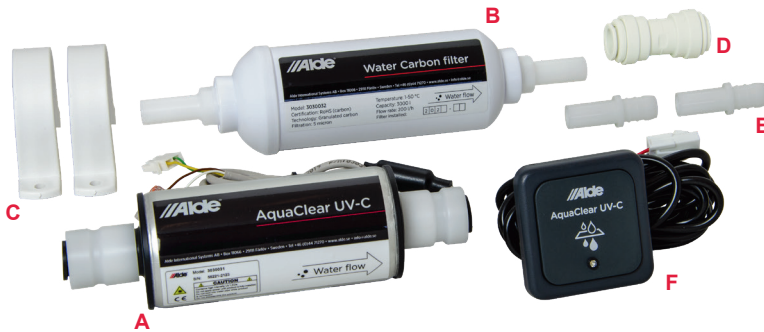
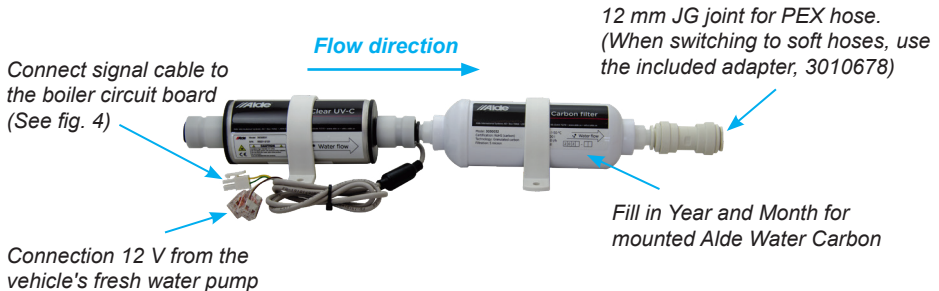
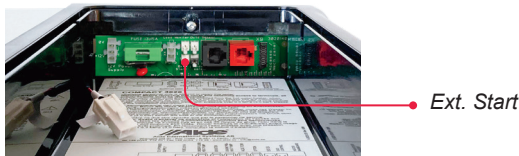

*fig. 1, Alde AquaClear 3030033, complete*
fig. 3
fig. 4
**Alde AquaClear complete 3030033 (fig. 1), consists of:**
2. Assemble the Alde AquaClear UV-C (fig. 1, A) with the Alde Water Carbon filter (fig. 1, B). Please note that Alde Aqua Clear UV-C should be located before the Alde Water Carbon filter in the flow direction. (See fig. 3)
5. The connector with green and yellow wire is connected with the supplied extension cable (fig. 1, F). The cable is then connected to the Ext. Start switch (fig. 4) and indicates whether the filter is active on the control panel during water flow from the water pump.